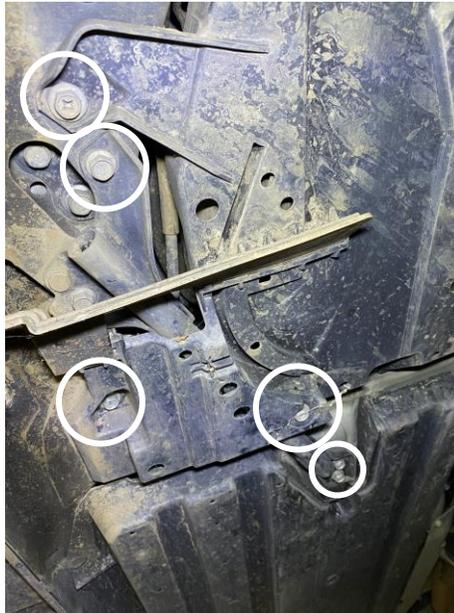

Figure 3.
- R. While supporting the rear subframe, remove the bolts holding the retainer as shown below in Figure 3. Remove the retainer and attached components.